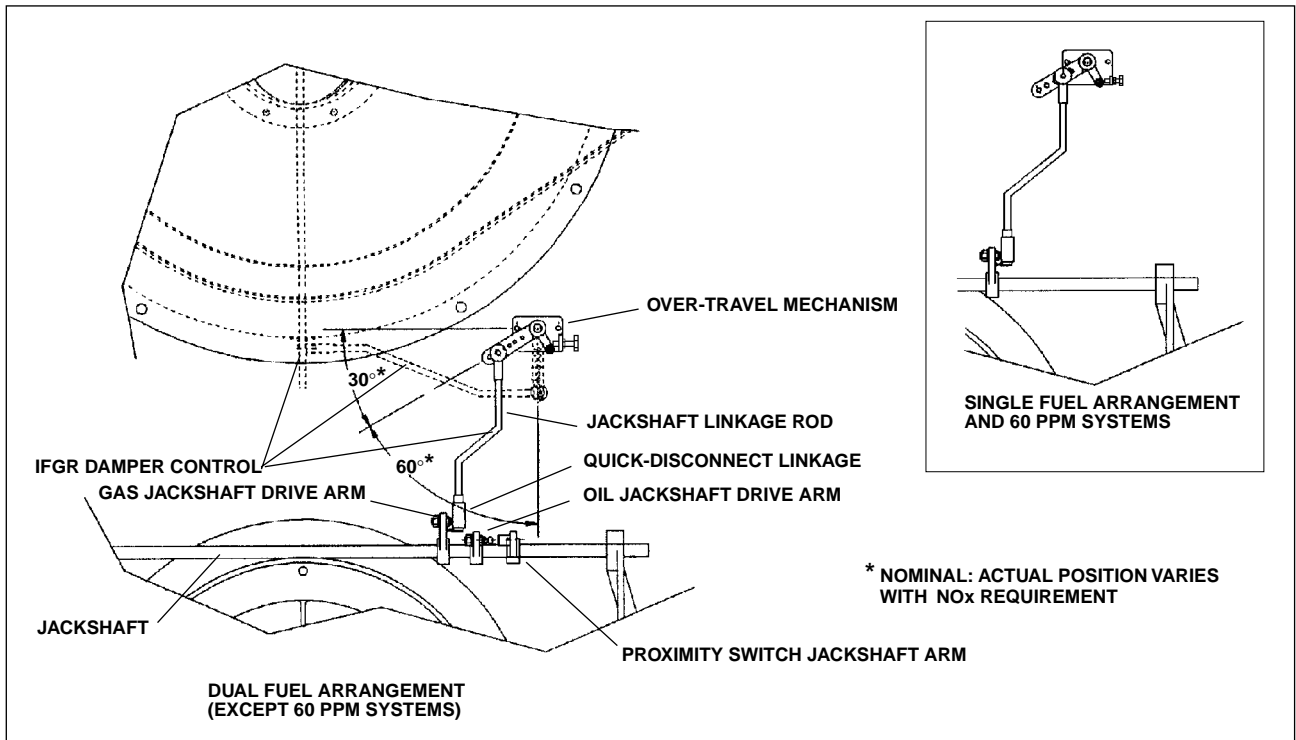

Figure 8-9: CB-LE Damper Linkage
- 5. Check and replace any gaskets that have been damaged. Gaskets that have been in use for one year or more should be replaced. In particular, inspect the airbox gasket (Figure 8-9) for damage. If it needs to be replaced, refer to Section O for installation instructions.